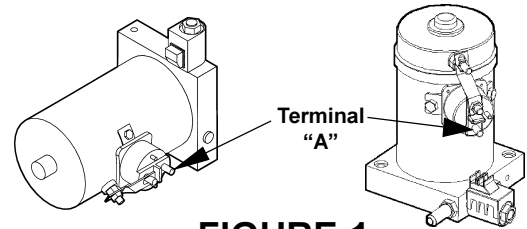

FIGURE 1
1. Verify that power is being supplied to Terminal "A". Recharge the battery if less than 12 Volts registers on the Voltage Tester. **(See Fig. 1)**